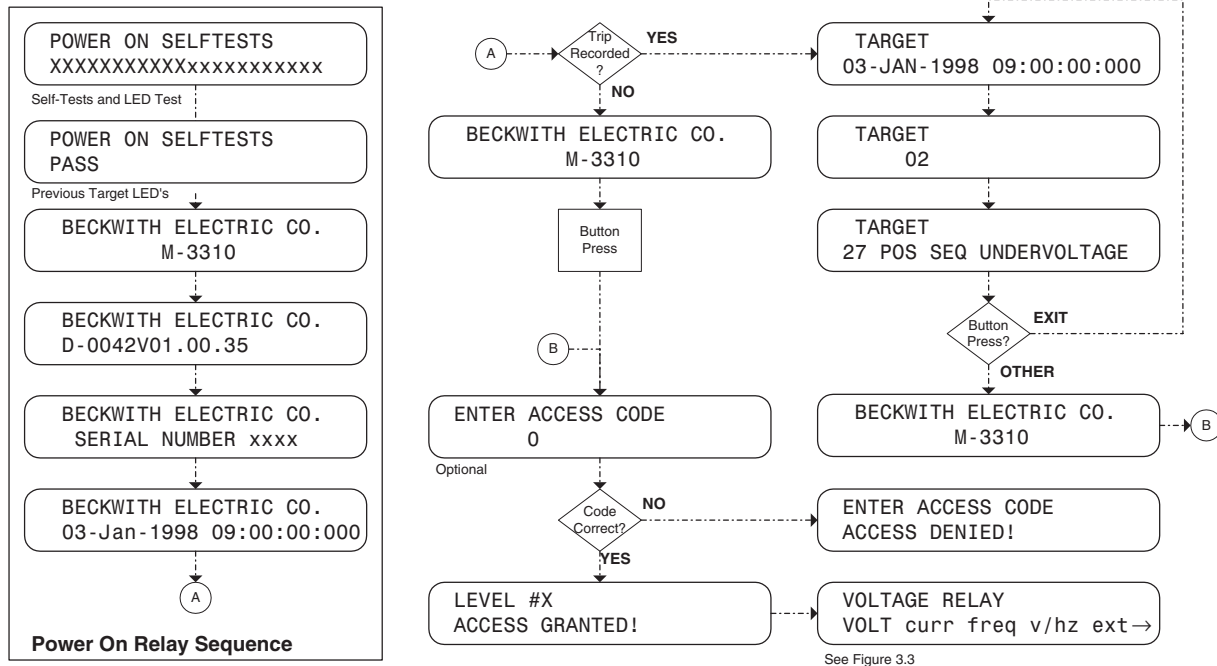

Figure 3-3 Message Flow
If a function has operated and not been reset, it will display the time and date of the operation and automatically cycle through screens for each applicable target. This sequence is illustrated in Figure 3-3. In either case, pressing **ENTER** will begin local mode operation, thereby displaying the access code entry screen, or if access codes are disabled, the first level menu will be displayed.
2. When initially powered up, the M-3310 performs a number of self-tests to ensure its proper operation. During the self-tests, an "X" is displayed for each test successfully executed. If all tests are successful, the unit will briefly display the word **PASS**. Then, a series of status screens, including the model number, software version number, serial number, date and time as set in the system clock, and the user logo screen will be displayed. (Figure 3-3 illustrates this sequence of screens.)